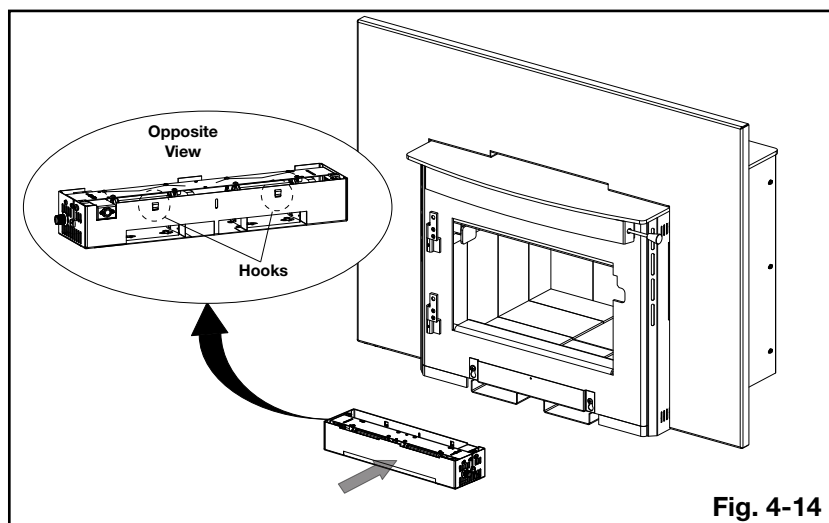

**Fig. 4-12**
- Remove the shipping bracket by removing the two screws (**Fig. 4-12**). Discard the bracket and set the screws aside.